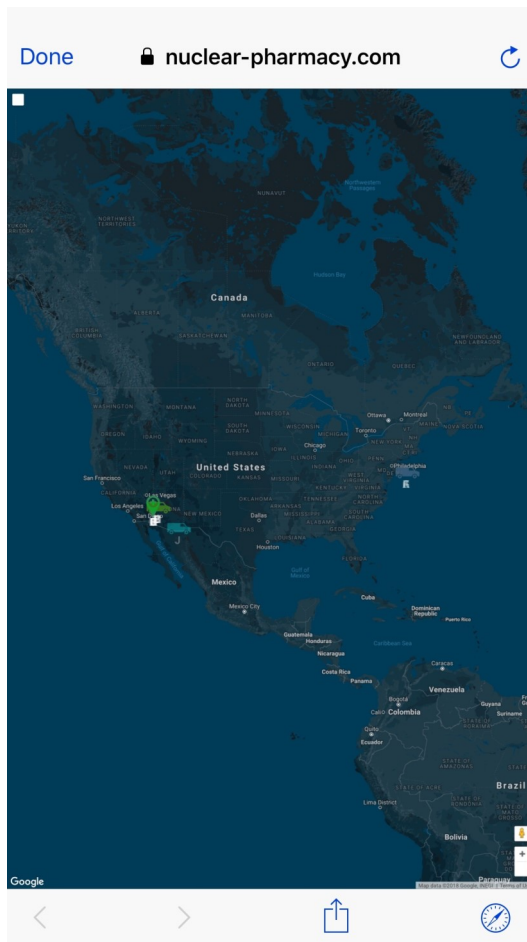

Fig 3
4. Show Map (in Options) allows you to see the location of all drivers currently using BioPointe. See Fig 3